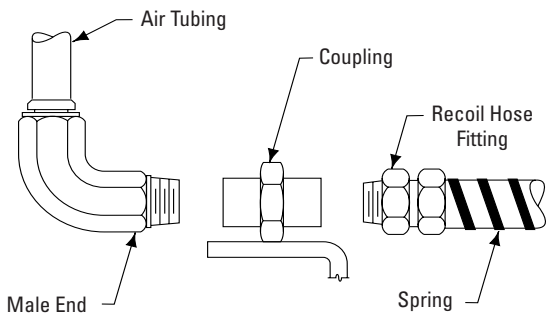

**Fig. 35**
- C. Connect one end of provided rear recoil hose to bulkhead T-fitting at midpoint of runway. Connect other end of recoil hose to coupling welded on rolling jack, Fig. 35 and 37.
- D. Connect elbow end of rolling jack tubing assembly to air pump and male end to the coupling, Fig. 35 and 37.